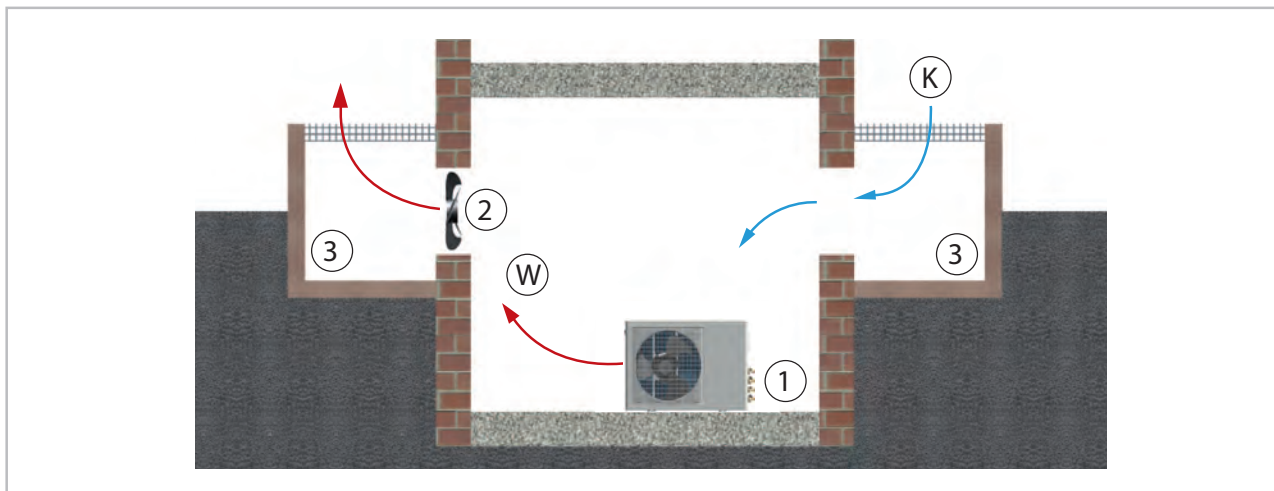

Fig. 27: Installation inside buildings
- Ensure that heat can dissipate adequately when placing the outdoor unit in cellars, lofts, adjoining rooms or halls (Fig. 27).
- Install an additional fan with a rated flow comparative to that of the outdoor unit being installed in the room and which can compensate any additional pressure loss in ventilation ducts (Fig. 27).